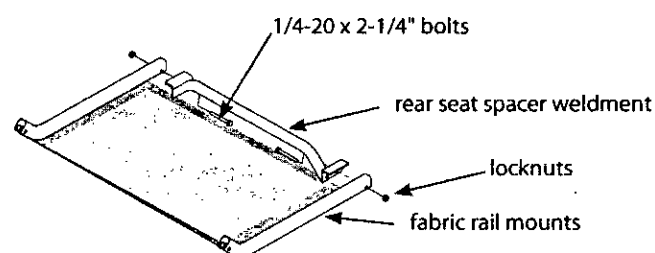

Figure 6a
8. a. Position the pre-assembled mesh seat/fabric rail mounts (360019) upside down on a sturdy, hard surface. Spread the rear of fabric rail mounts apart and insert the rear seat spacer weldment (410122). Temporarily insert (2) 1/4-20 x 2-1/4" bolts and locknuts. **SEE FIGURE 6a.**